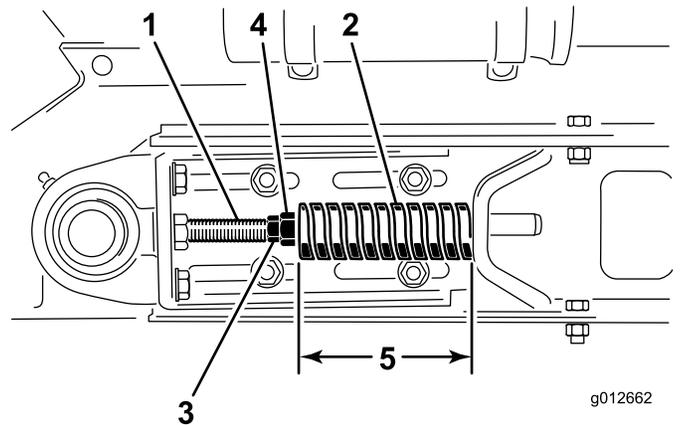

Figure 17
1. Loosen jam nuts and adjust tension rod nuts to attain desired tension (Figure 17).